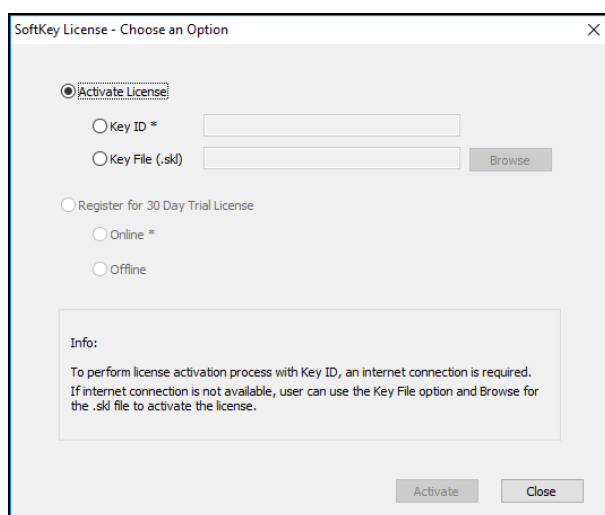

Figure 7. Activate License
- a. From the **CHOOSE AN OPTION** page (Figure 7), select **KEY ID**.
- b. From the **CHOOSE AN OPTION** page (Figure 7), select **KEY FILE (.skl)**.